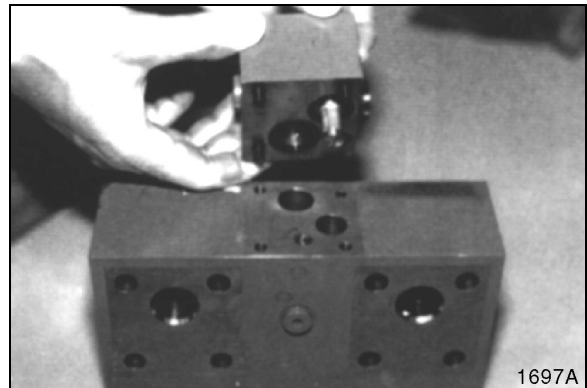

Figure 103
12. Mount on regulator cover. See Figure 103.